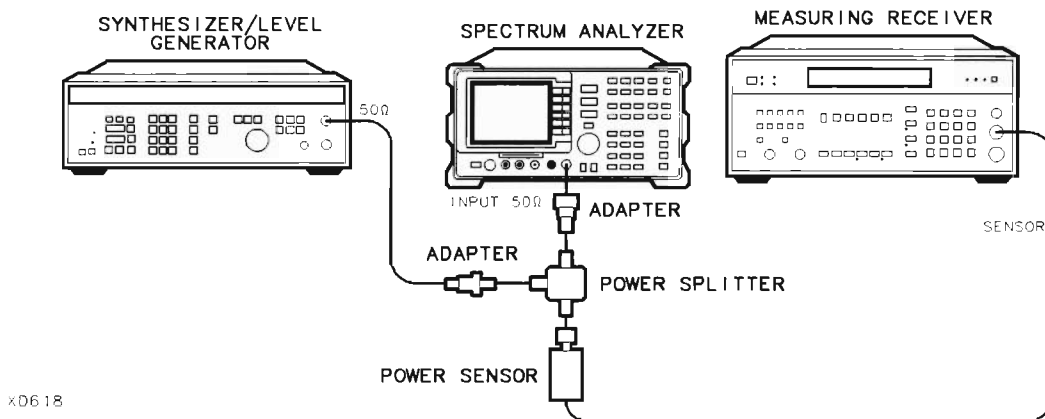

Figure 2-35. Frequency Response Test Setup, <50 MHz
27. Connect the equipment as shown in Figure 2-35, with the power sensor connected to power splitter.